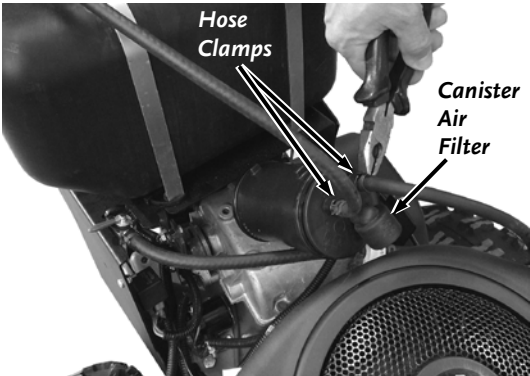

Figure 41
6. Position the Carbon Canister so that you can remove the Hose Clamps with Pliers (**Figure 41**).